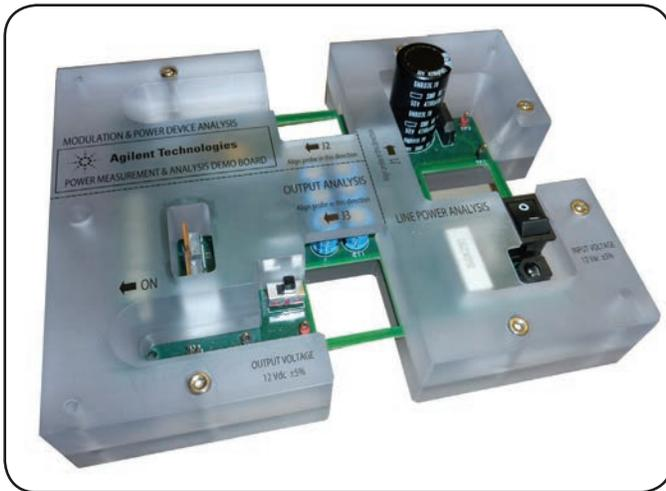

Figure 1: Agilent's Switch Mode Power Supply Measurements Training Kit.
- Your Switch Mode Power Supply (SMPS) or Agilent's SMPS Measurements Training Kit (Figure 1)